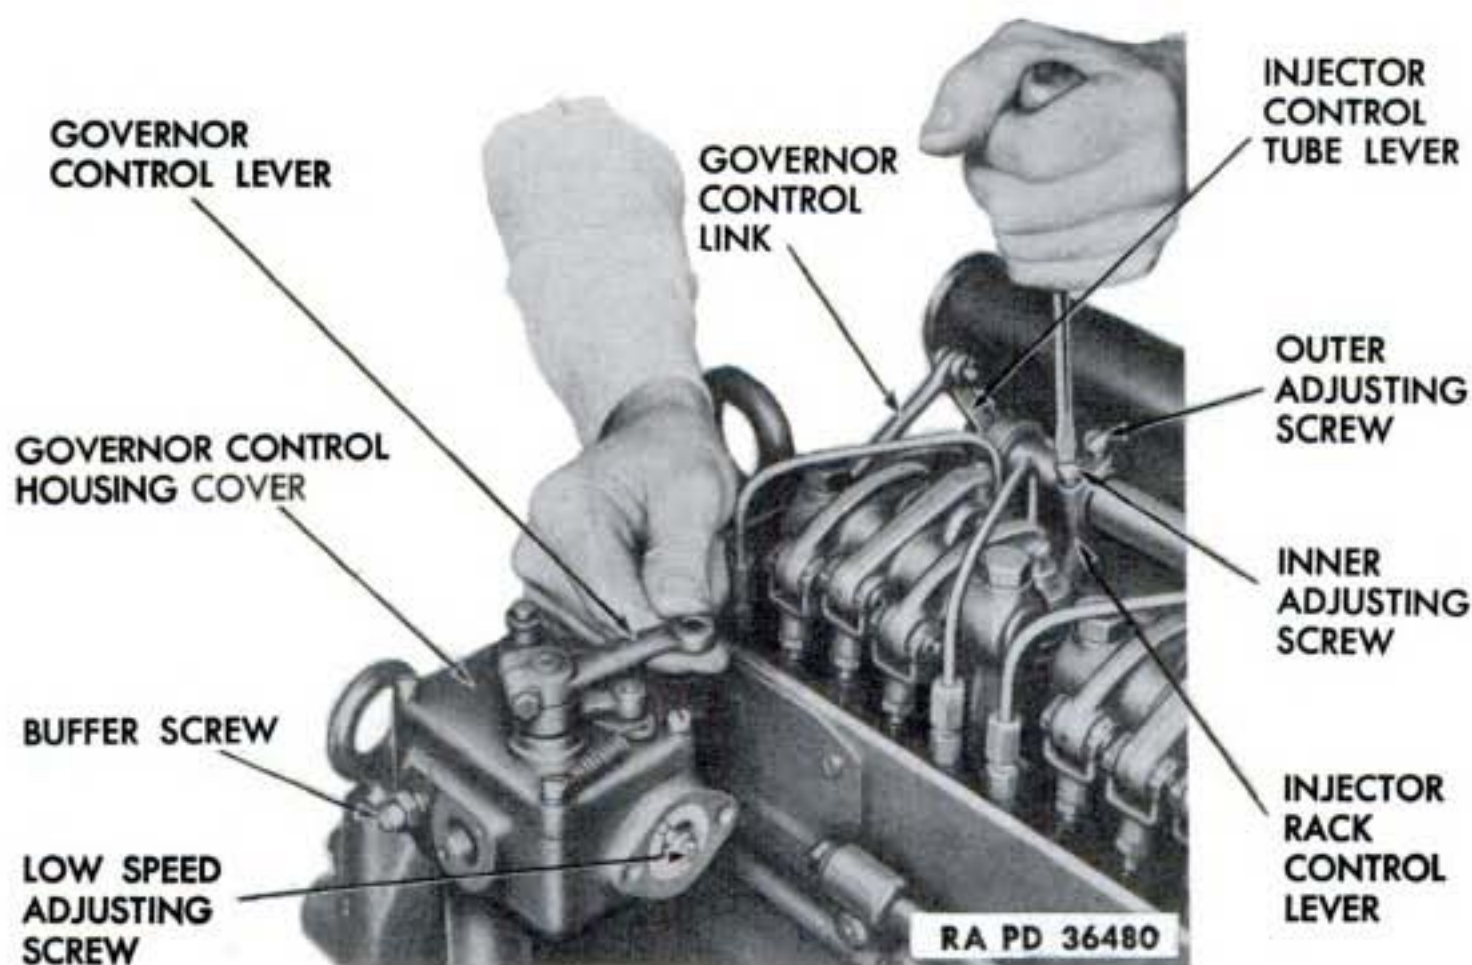
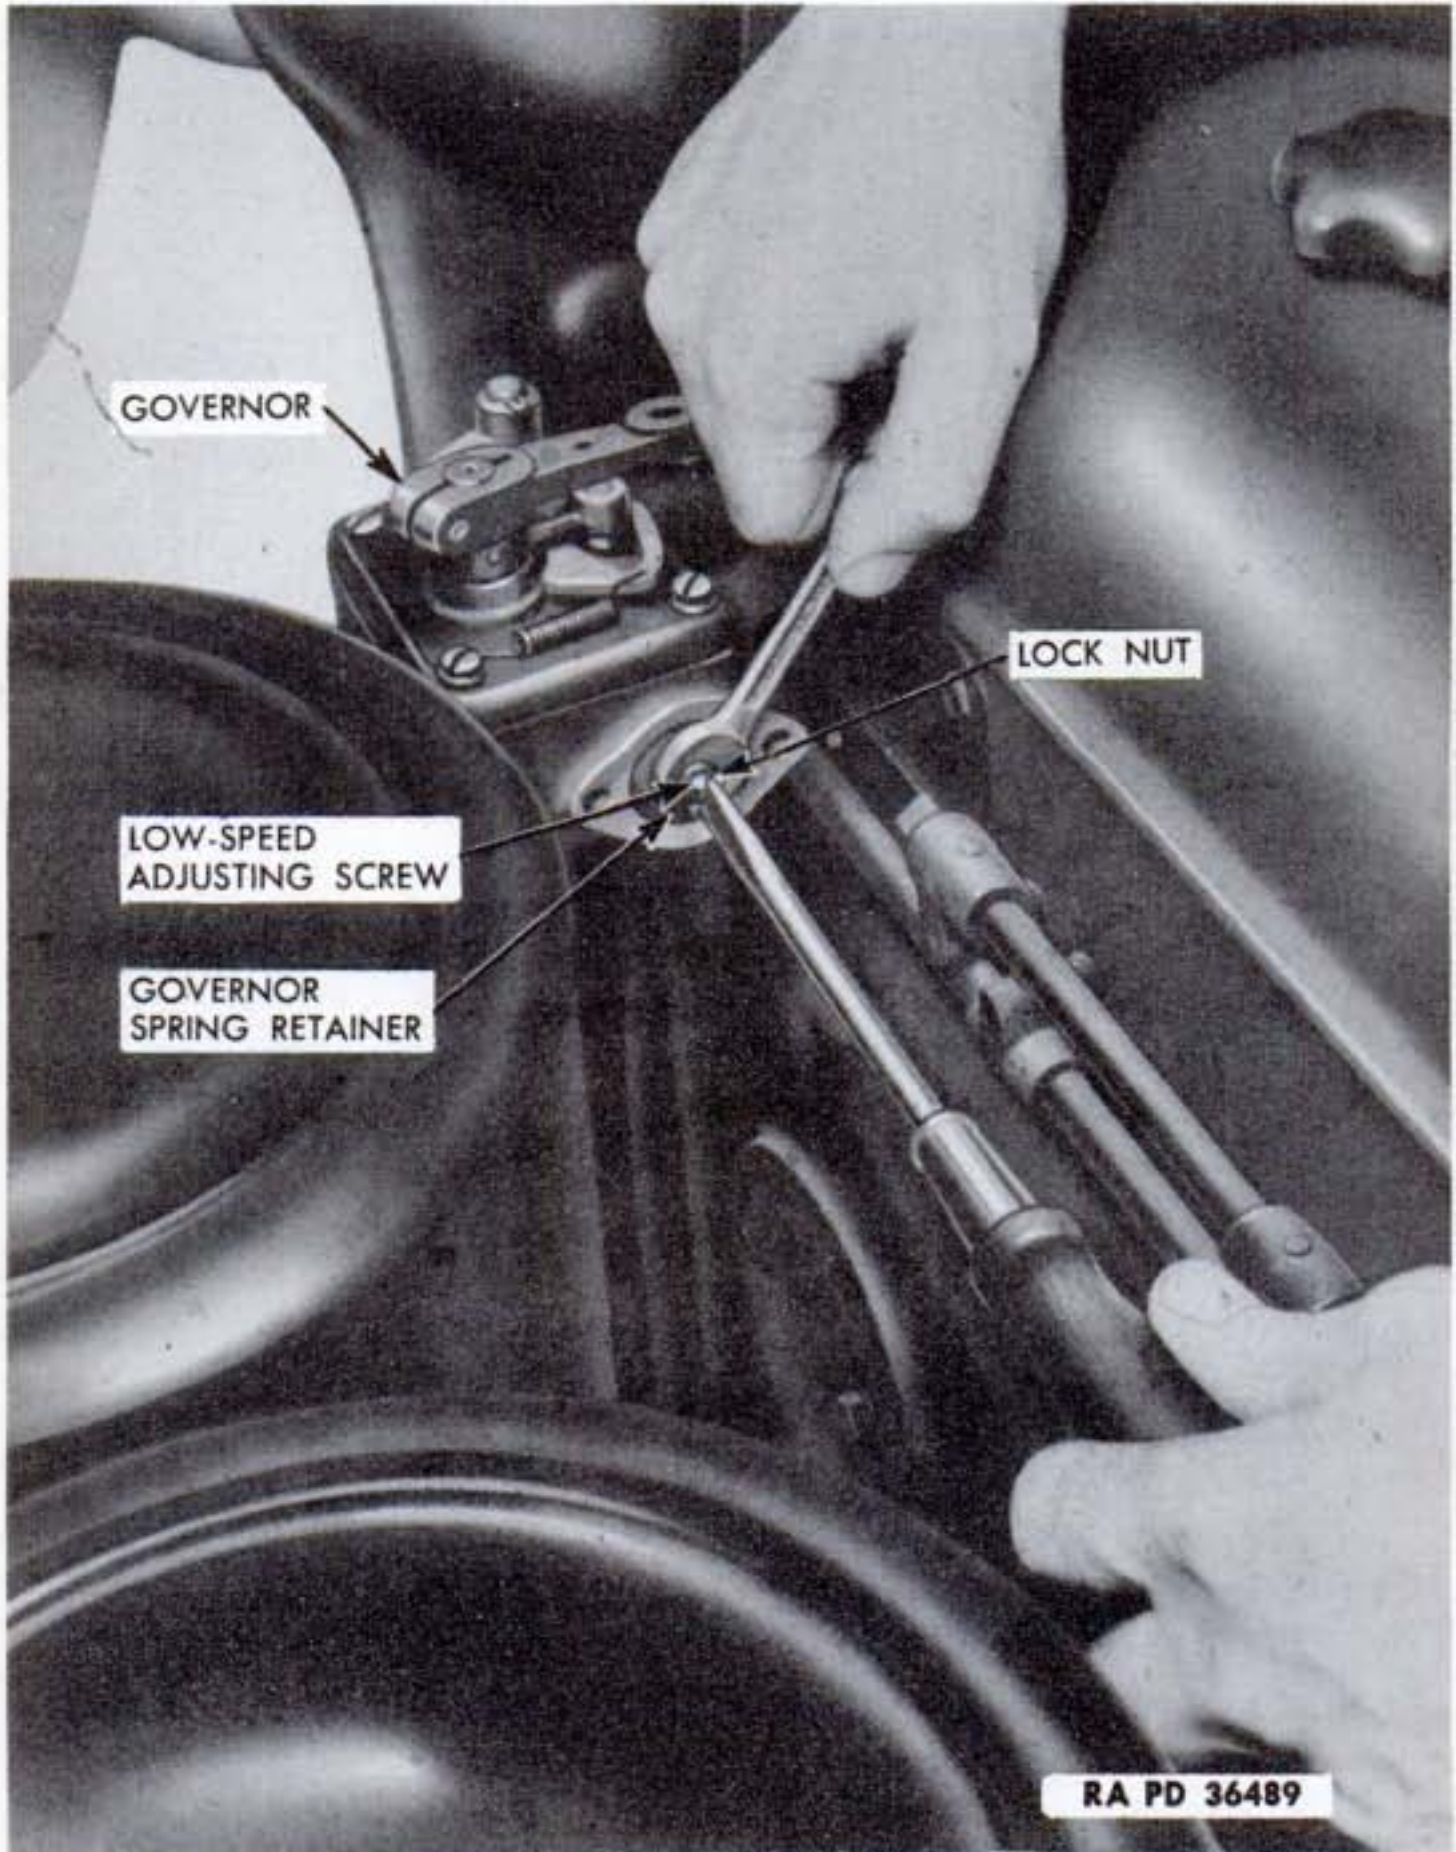

Figure 44—Positioning Injector Rack
Figure 46—Adjusting Engine Idling Speed
d. Removal of Fuel Injector. Turn tank selector valve to "OFF". Remove rocker arm cover (par. 82 b). Disconnect both fuel lines from injector. Loosen fittings on fuel connectors and move fuel lines outward to clear the rocker arm shaft. **CAUTION:** *Cover the fuel feed openings on the injector with shipping caps if available, or with tape, to prevent dirt entering injector.* Loosen both rocker arm shaft bracket bolts evenly until they are free of cylinder head. Tip rocker arms and shaft over toward outside of engine. Remove nut, washer and injector clamp from hold-down stud. With injector remover (41-R-2381-600) pry injector up evenly while guiding rack over end of rack control lever (fig. 44). Remove injector and cover hole in cylinder head.
g. Positioning Injector Rack. The following procedure covers the positioning of a single injector rack control lever when only one injector has been removed and installed in the engine. When more than one injector has been removed and installed, follow the procedure given in paragraph 71 b. Remove rocker arm cover (par. 82 b). Disconnect throttle lever link from governor control lever. Push against and hold the governor control lever to position the injector racks all the way in which is the "FULL FUEL" position. Slightly loosen both adjusting screws on top of injector rack control lever which operates the injector that was replaced. Screw down the inner adjusting screw, the one nearest rocker arms, until the injector rack moves in and strikes bottom and the other racks just start to move out (fig. 44). Next, tighten the outer adjusting screw on injector control tube lever, then lock the inner screw. After positioning the rack control lever, check to see that no other rack has moved out. This can be done by prying inward on each of the other injector racks with the tip of a screwdriver using the control tube as a fulcrum. If any of the injector racks can be moved in, the end of the lever being positioned was set too far toward the injector and must be readjusted by backing off on the inner adjusting screw and tightening the outer adjusting screw. Shoulders on all injector racks must extend approximately $\frac{7}{8}$ -inch away from injector bodies when governor control lever is held in the "NO FUEL" position and injector control tube lever is pushed down beyond its "NO FUEL" position (fig. 44). Connect throttle lever link to governor control lever.
(5) **ADJUST ENGINE IDLING SPEED.** Loosen lock nut and back out the buffer screw on outer side of governor housing (fig. 46) until it projects $\frac{5}{8}$ -inch from governor housing. Start engine and run at 800 to 1,000 revolutions per minute to warm to operating temperature. Set throttle in "IDLING" position. See that pin on governor cam lever is in idling notch in slot in control cam on governor housing. If engine runs unevenly or "rolls" when thoroughly warm, gradually turn buffer screw in until engine runs smoothly, or nearly so. Then turn the idle adjusting screw as required to obtain an average idling speed of 400 to 450 revolutions per minute and tighten lock nut. Reset buffer screw, if necessary, to bring the idle roll to a minimum. Do not turn buffer screw to increase idling speed more than 20 revolutions per minute or it may not be possible to stop the engine with the throttle. Tighten buffer screw lock nut (fig. 44).